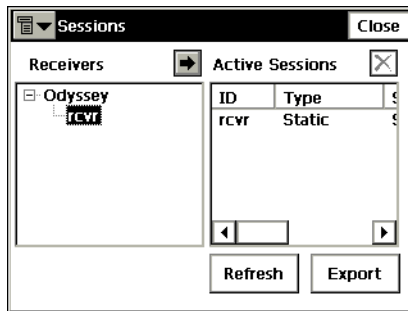

Figure 5-24. Job Session
1. To export the session to the receiver, establish a connection between the controller and the applicable receiver, then select **Job ▶ Export ▶ Sessions**, the *Sessions* screen opens (Figure 5-24).